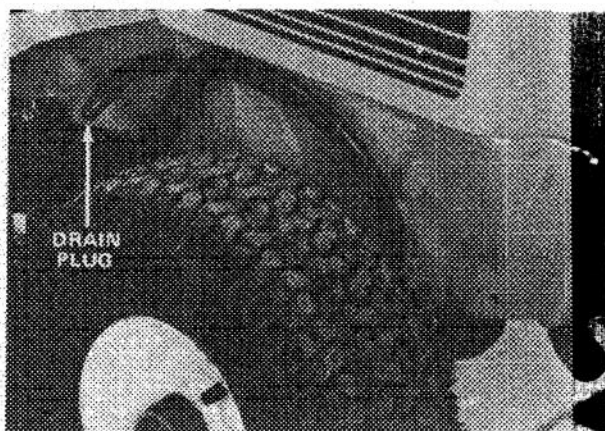

Figure 24
B. Turn engine off and place drain pan below drain plug (Fig. 24). Remove drain plug and allow all oil to flow into drain pan. Install drain plug after oil stops flowing.